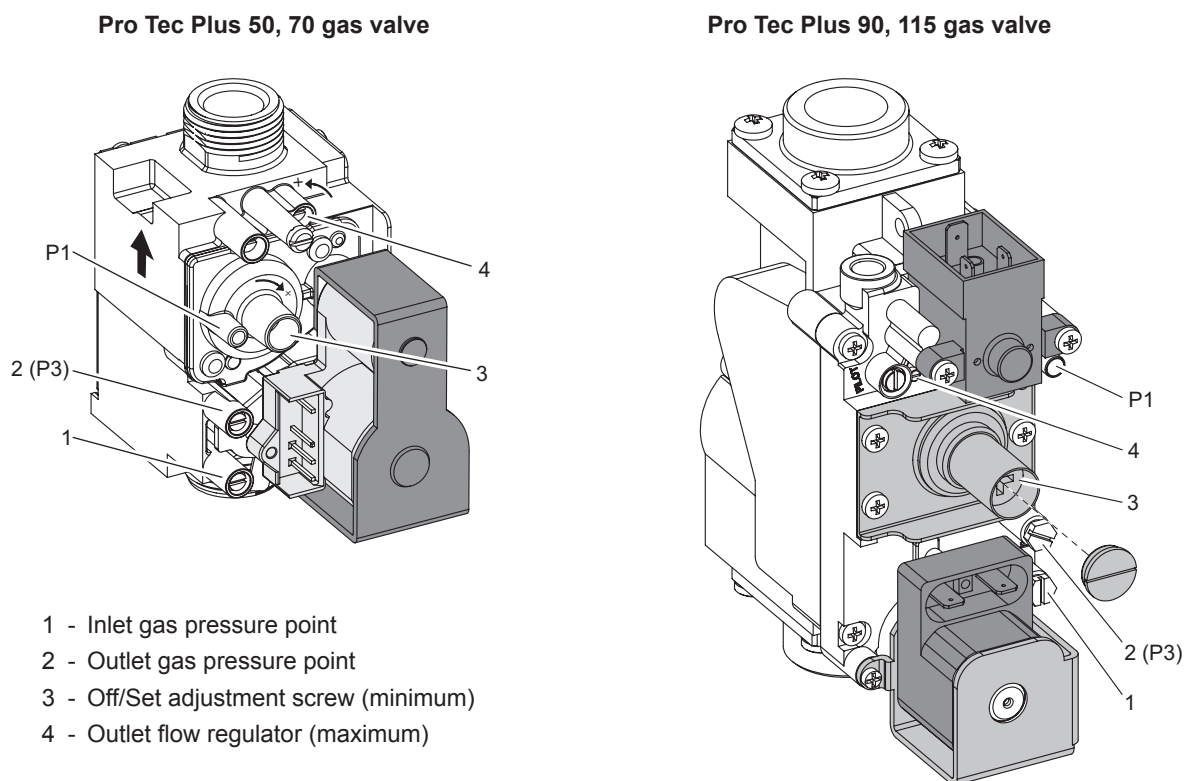

Fig. 5.1
2. Loosen the gas inlet pressure test point screw on the gas valve (see Fig. 5.1). Ensure the gas supply is on and open the boiler service cock to purge in accordance with BS 6891 and IGE UP/1, 1A and 1B.